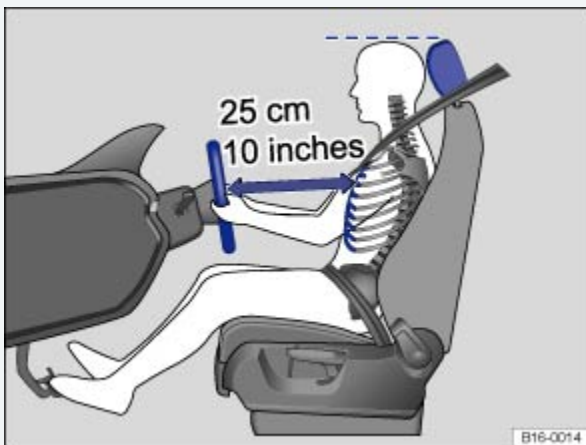
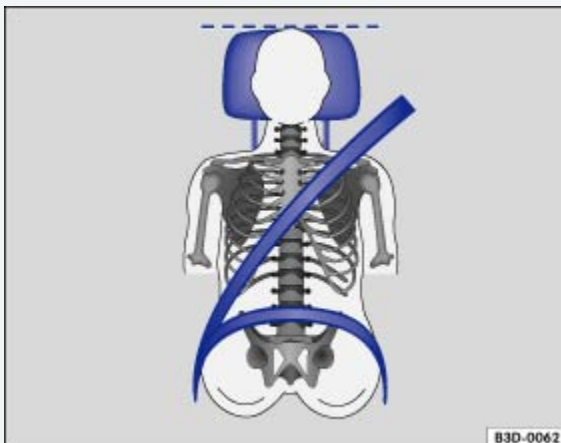

Fig. 39 The driver should never sit closer than 10 inches (25 cm) from the steering wheel.
Fig. 40 Proper safety belt positioning and head restraint adjustment.
- Adjust head restraints so that the upper edge of the head restraint is at least at eye level or higher. Position the back of your head as close as possible to the head restraint ⇒ Fig. 39 and ⇒ Fig. 40.
- Adjust the steering wheel so that there are at least 10 inches (25 cm) between the steering wheel and your breast bone ⇒ Fig. 39. When adjusting the proper distance to the steering wheel, grasp the top of the steering wheel with your elbows slightly bent.